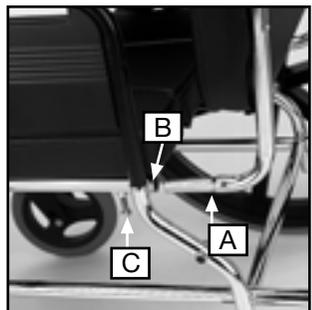

Fig. 12
3. RESPALDOS SILLAS FIJAS (Mod. 3002, 3003, 3018, 3013,3004) (Fig. 12, pag.3)